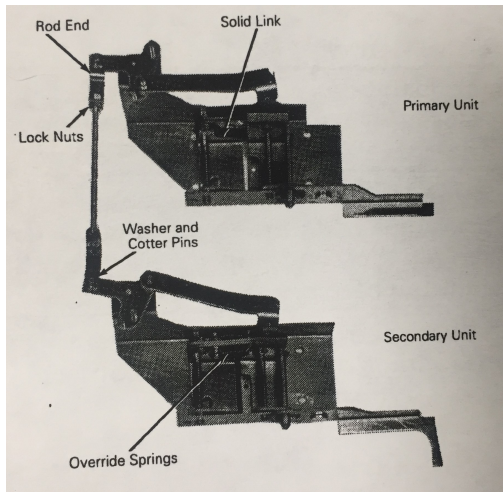

Figure 7. Attachment of the interconnection rod for a vertical installation.
1. For a vertical installation, attach the rod ends to the pivots as shown in Figure 7. The rod ends are provided in the Mechanical Interlock kit; the $\frac{1}{4}$ -20 threaded rod is supplied by the customer.